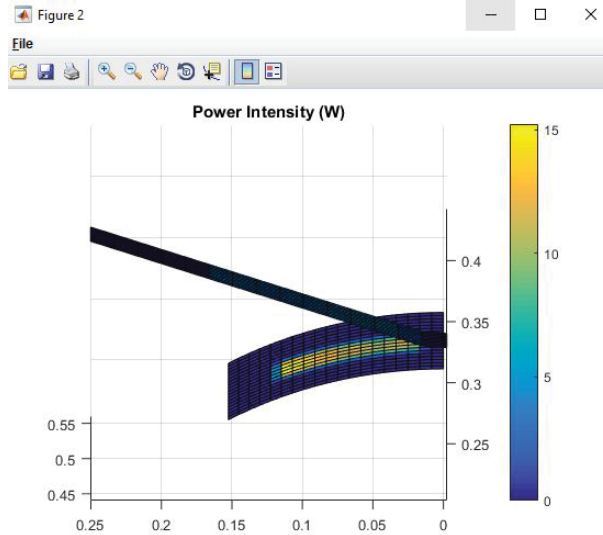

Figure 139: Intensity distribution on tape and substrate on curved surfaces.
Figure 139 shows the power intensity distribution on a meshed model for both tape and substrate together. The unit for intensity distribution here is watt (W).